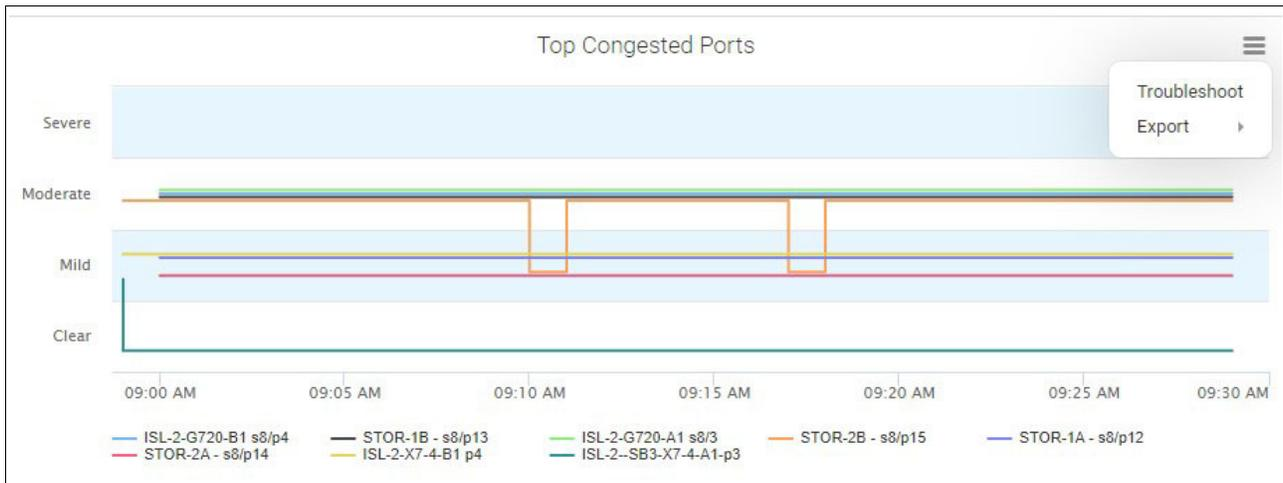

Figure 5-69 Top congested ports
2. Click ports in the legend below each graph to hide or show the corresponding lines in the graph. For example, in Figure 5-69, the graph lines for port8_4 and port15_4 are hidden.